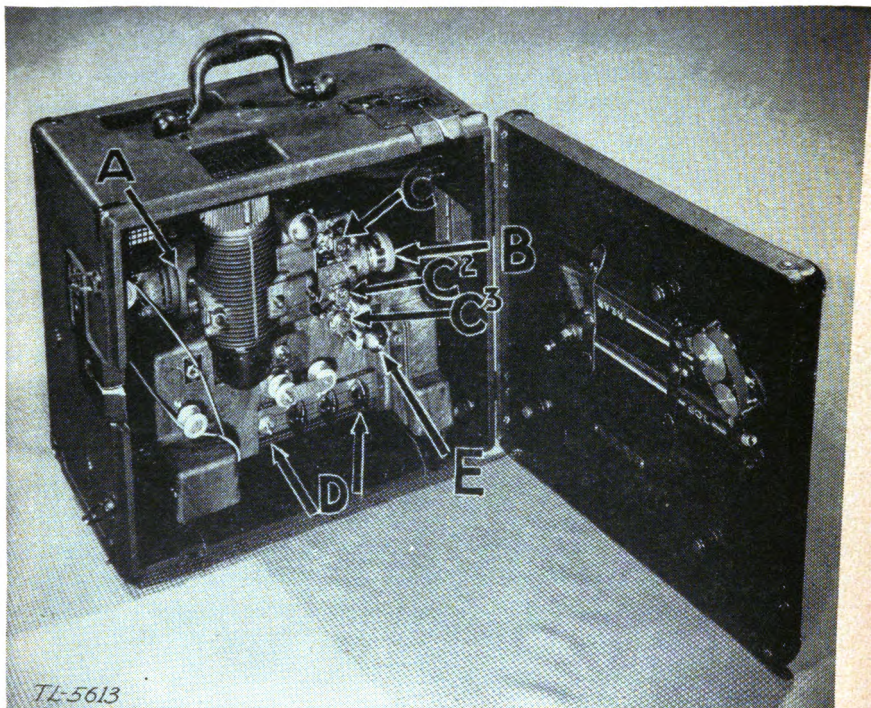

FIGURE 2.—Bell & Howell projector case open showing detachable reel arms in carrying position.
**2. Types of projectors and screens.**—*a.* Four types of 16-mm projectors are used in the Army training program: Ampro YA, Phonofilm, Bell & Howell, and R. C. A. The complete projector usually comes in two cases, a projector case and a speaker case (see fig. 1). The projector case (fig. 2) houses the motor *A*, lens *B*, sprockets *C*1, *C*2, and *C*3, control panel *D*, sound drum *E*, and the projector and exciter lamps. The speaker case houses the speaker, speaker cable *G*, power cable *H*, reel *I*, a tool kit *J*, spare lamps, and extra tubes. (See fig. 3.) The size and weight of the four projector models are shown in the following table: